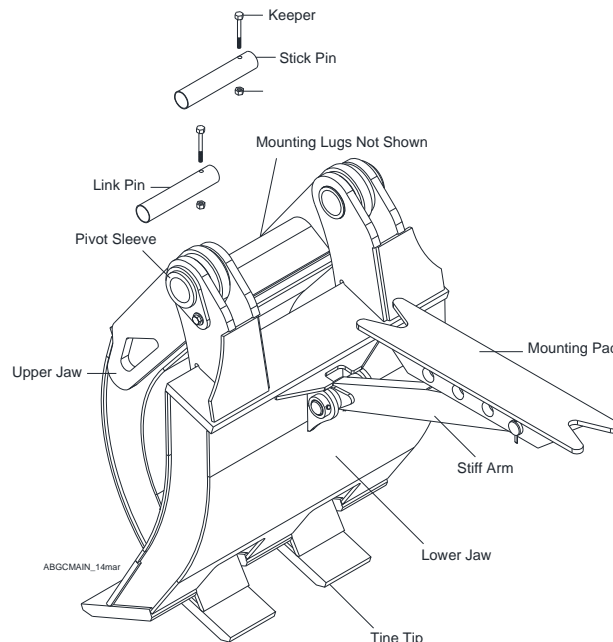

Fig. 4-1 Main Components of Grapple
Refer to Figure 4-1. The main components of the Allied ABG grapple include:
- Mounting Lugging (Not shown in Fig. 4-1)